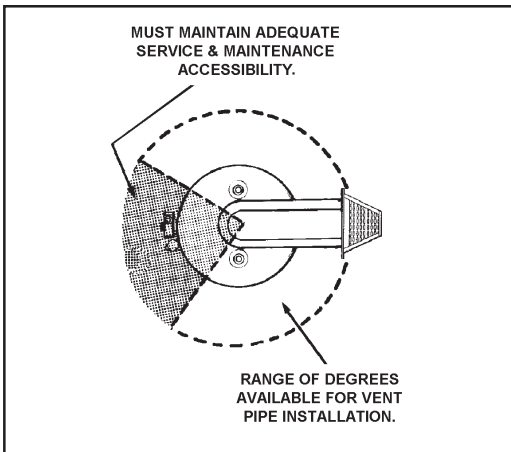

FIGURE 8
- The location selection must provide clearances for servicing and proper operation of the water heater, see Figure 8.